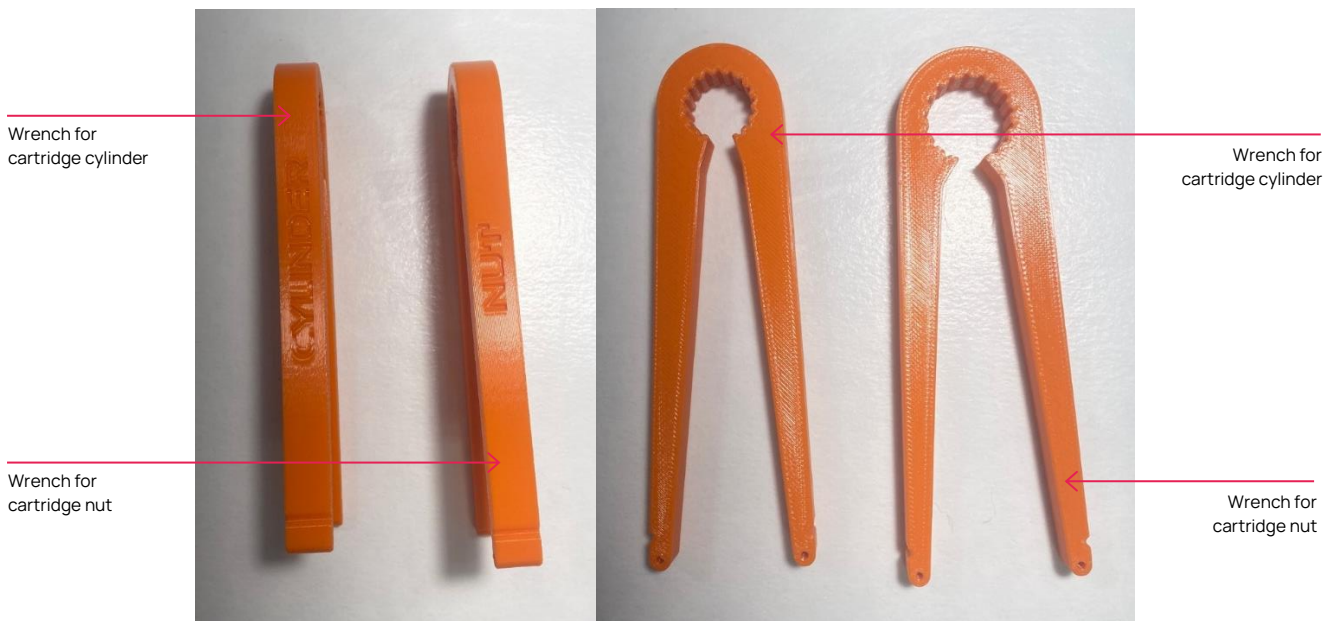

Fig. 16. Wrenches for tightening the cartridge nut: for cartridge cylinder and for cartridge nut.
- a. Prepare the wrenches to tighten the cartridge nut (Fig.16),